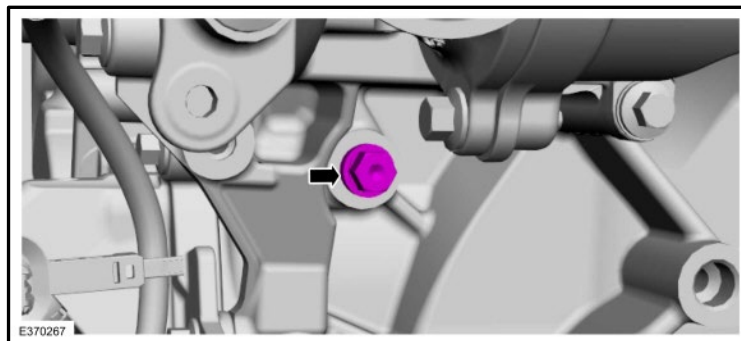

Figure 10
E. Remove the timing pin bolt at the left front of the engine. Figure 10.